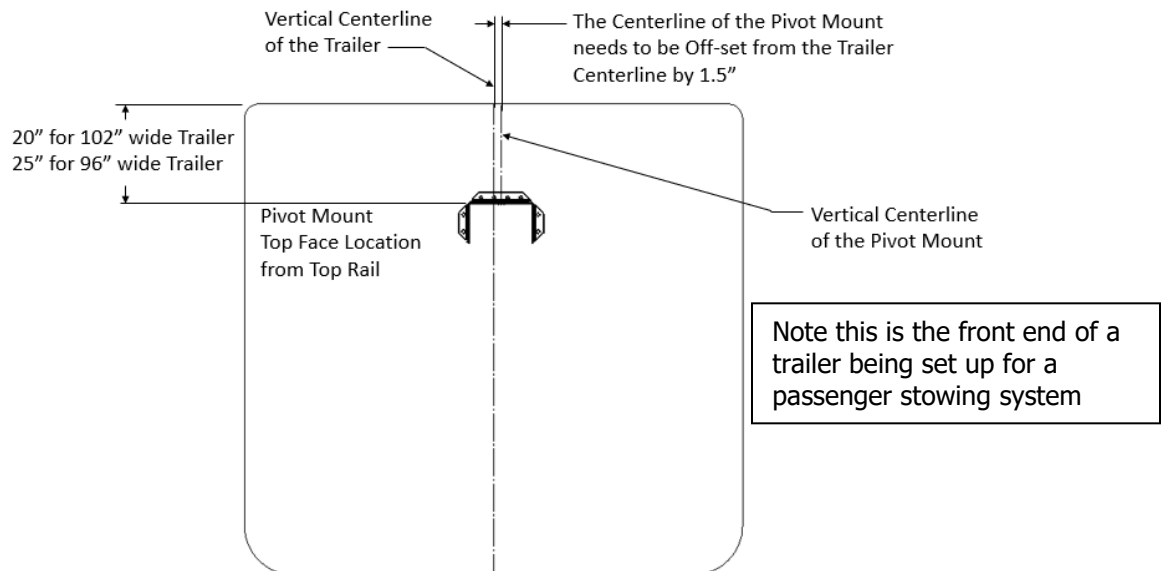

Figure 17
2. On a passenger stowing system both the front and the rear pivot mounts will need to be offset from the center of the trailer by 1 1/2", towards the driver's side. Refer to figure 17 below for clarification. On a driver stowing system, they will need to be offset 1 1/2" toward the passenger side of the trailer.